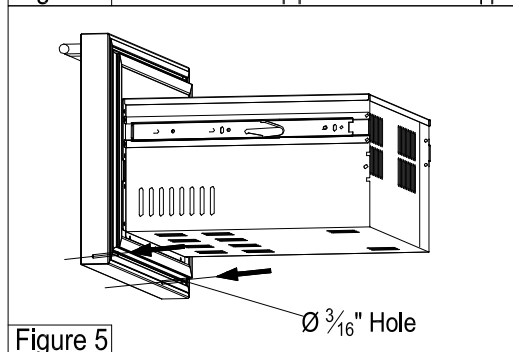

Figure 5
7. Drill 2 new holes into the door groove at the lower inside of the drawer with a 3/16" (5mm) drill bit until it goes through the door face (see **Figure 5**).